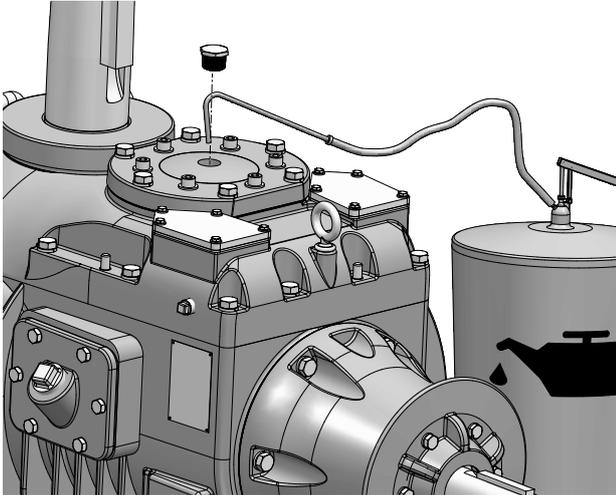

Figure 1 Priming Interstage Shaft
Due to lack of control over facility operational readiness, site ambient conditions or storage practices, etc., it is recommended to supplement lubricant prior to initial operation. The same fill lubricant should be poured or pumped into the port above the interstage shaft. Remove pipe plug in center of Interstage Bearing Cap to expose port. Refer to **Figure 1**. If additional oil is being used, an amount of 1 to 1 1/2 liters should be used. If the lubricant is being pumped from the sump bulk volume, at least 1 liter **should** be transferred. In either case, this priming step should be performed within 5 days of initial operation. If a delay occurs and the 5 day duration is exceeded, repeat the process. In either case, this priming step should be performed **while rotating the gear train by hand** and within 5 days of initial operation.
1. Pour oil through fill hole in Geareducer inspection cover until it reaches height of "full" mark in the Geareducer case and at the sight glass. See **Figures 1** and **3**. Reinstall pipe plug in the fill hole.